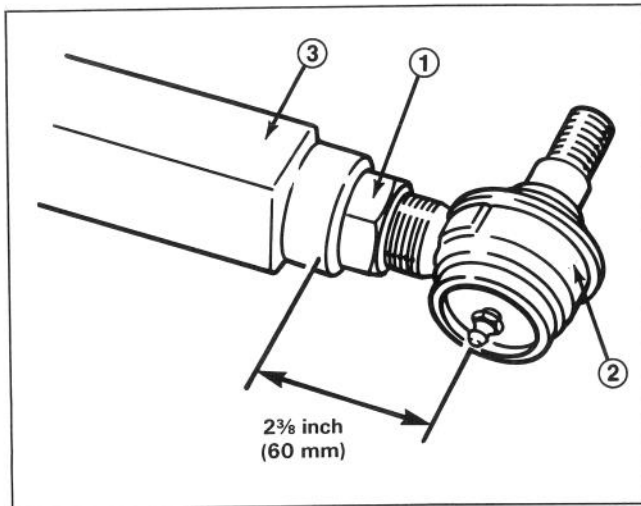

Figure 8
2. To assure correct deck alignment, loosen the push arm ball joint locknut and measure from the end of the push arm to the center-line of the ball joint and adjust to 2-3/8" (60 mm)(Fig. 8). Leave the push arm locknut loose.